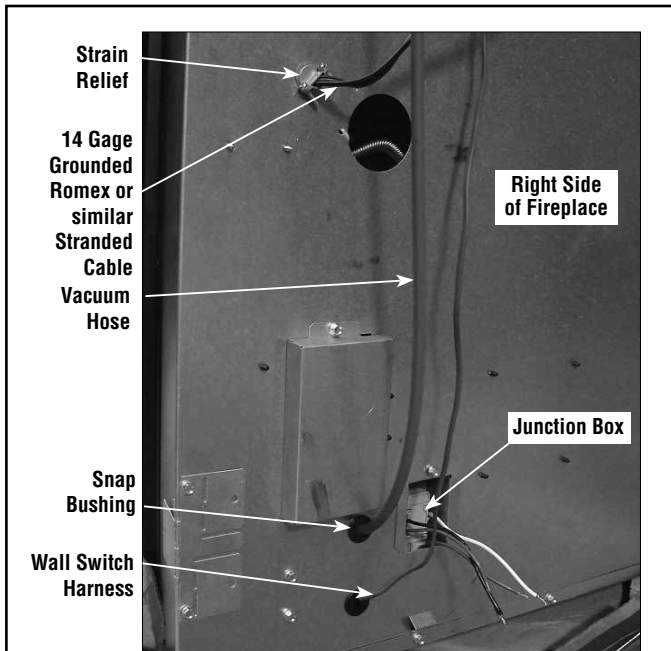

Figure 22 - Routing Wiring
- Install the strain relief in the hole provided on the right side of fireplace for the electrical wiring (see *Figure 22*).